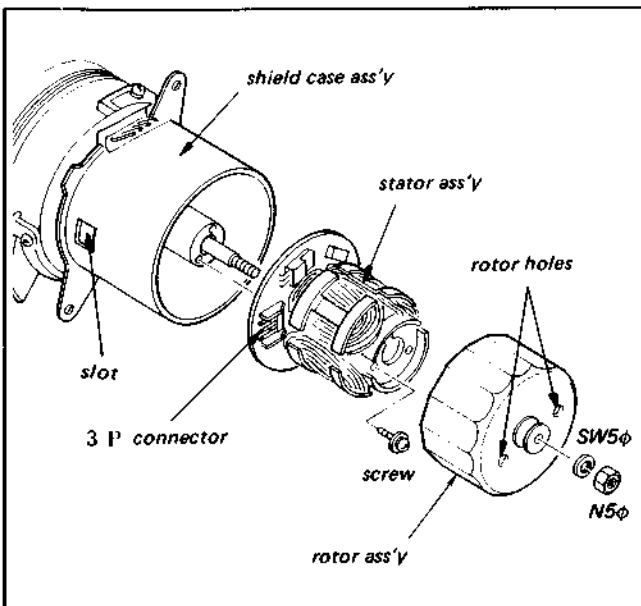

Fig. 3-5. Replacement of drum assembly (3)
4. Loosen the rotor assembly by inserting a long-nose pliers or a screwdriver into the two rotor holes shown in Fig. 3-5 and removing the N5 $\phi$  nut and SW5 $\phi$  washer. Pull off the rotor assembly.
5. Remove the screw mounting the stator assembly (shown in Fig. 3-5) and pull off the stator assembly.